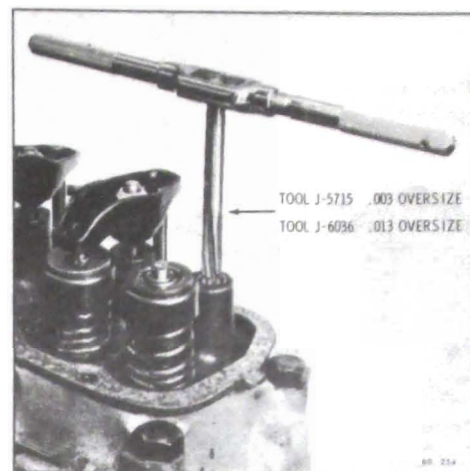

Figure 60-112--Reaming Rocker Arm Stud Hole
1. If rocker arm stud is loose or pulled out of head it will be necessary to ream stud hole to next largest size. See Figure 60-112.